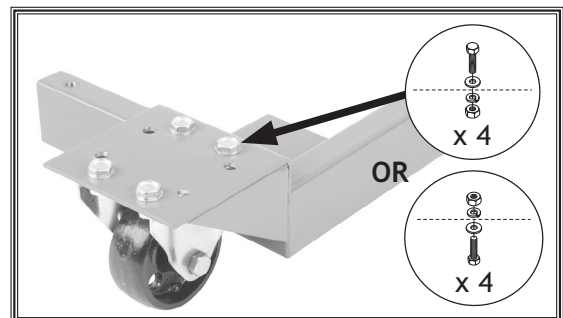

Figure 17. Options for mounting fixed casters to eight hole pattern corner brackets.
- Mount each fixed caster to a corner bracket with the eight hole pattern using (4) M8-1.25 x 16 hex bolts, 8mm flat washers, 8mm lock washers and M8-1.25 hex nuts, as shown in **Figure 17**.